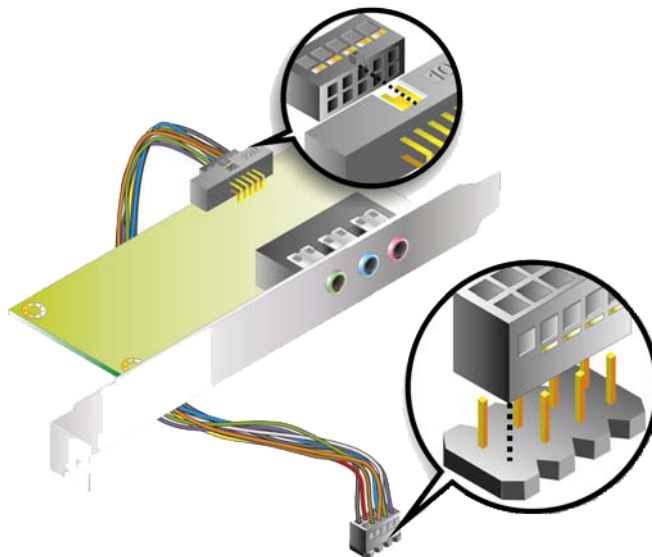

Figure 5-4: 5.1 Channel Audio Kit
Step 3: Align pin 1. Align pin 1 on the on-board connector with pin 1 on the audio kit cable connector. Pin 1 on the audio kit cable connector is indicated with a white dot. See Figure 5-4.